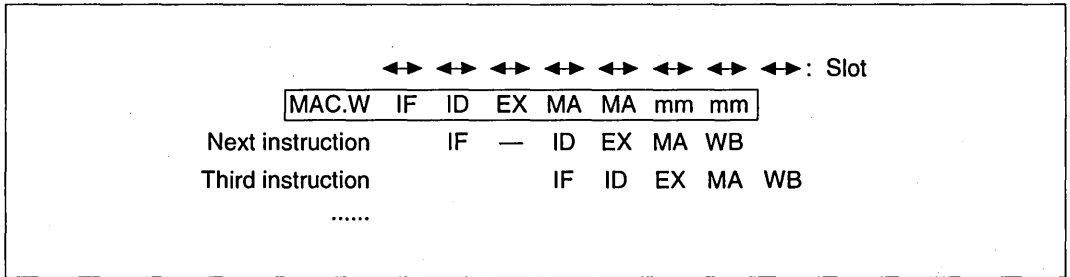

Figure 8.23 Multiply/Accumulate Instruction Pipeline
Operation: The pipeline has seven stages: IF, ID, EX, MA, MA, mm and mm (figure 8.23). The second MA reads the memory and accesses the multiplier. The mm indicates that the multiplier is operating. The mm operates for two cycles after the final MA ends, regardless of slot. The ID of the instruction after the MAC.W instruction is stalled for one slot. The two MAs of the MAC.W instruction, when they contend with IF, split the slots as described in Section 8.4, Contention Between Instruction Fetch (IF) and Memory Access (MA).